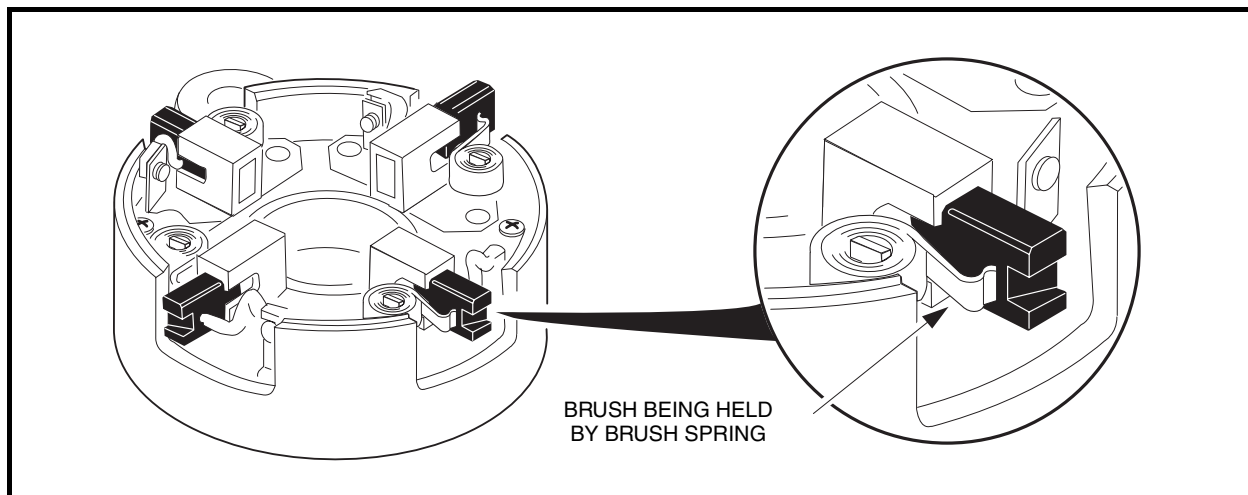

Figure 12-6 Pull Brushes Away from Center of the Commutator End Cover
NOTE: Brushes must be removed to avoid damage from commutator removal. Lift the brush springs out of the notches in the brushes and pull the brushes back from the center of the commutator end cover. The springs will help prevent them from sliding back towards the center (Figure 12-6, Page 12-4).
2. Install the commutator. Lift the brush springs out of the notches in the brushes and pull the brushes back from the center of the commutator end cover to avoid interference. The springs will rest on the sides of the brushes and help prevent them from sliding to the center (**Figure 12-6, Page 12-4**).
NOTE: Brushes must be removed to avoid damage from commutator removal. Lift the brush springs out of the notches in the brushes and pull the brushes back from the center of the commutator end cover. The springs will help prevent them from sliding back towards the center (**Figure 12-6, Page 12-4**).
8. Install the commutator. Lift the brush springs out of the notches in the brushes and pull the brushes back from the center of the commutator end cover to avoid interference. The springs will rest on the sides of the brushes and help prevent them from sliding to the center of the cover (**Figure 12-6, Page 12-4**).